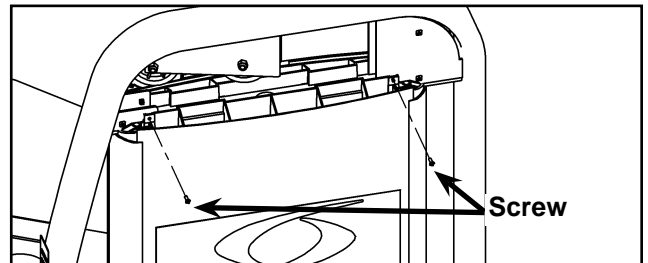

Figure 4
G. Remove the top two screws securing the back shroud assembly. See Figure 4.